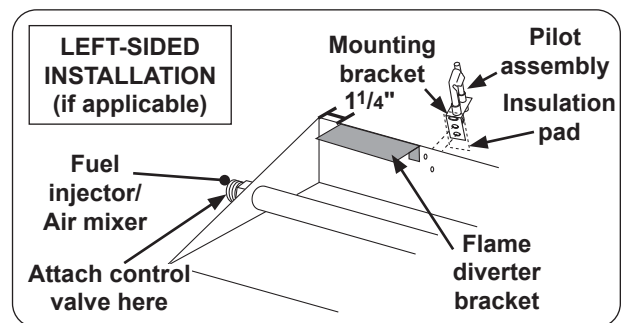

Fig. 4-3 Left-sided setup (if applicable)
1. Make sure the fuel injector/air mixer and burner cap are reversed so the fuel injector/air mixer is on the left side of the burner and the cap is on the right (see Fig. 4-3).
2. Turn the brass adapter 180 degrees on the control valve so the opening is to the right and then mirror for left-sided installation as shown in Fig.4-3.